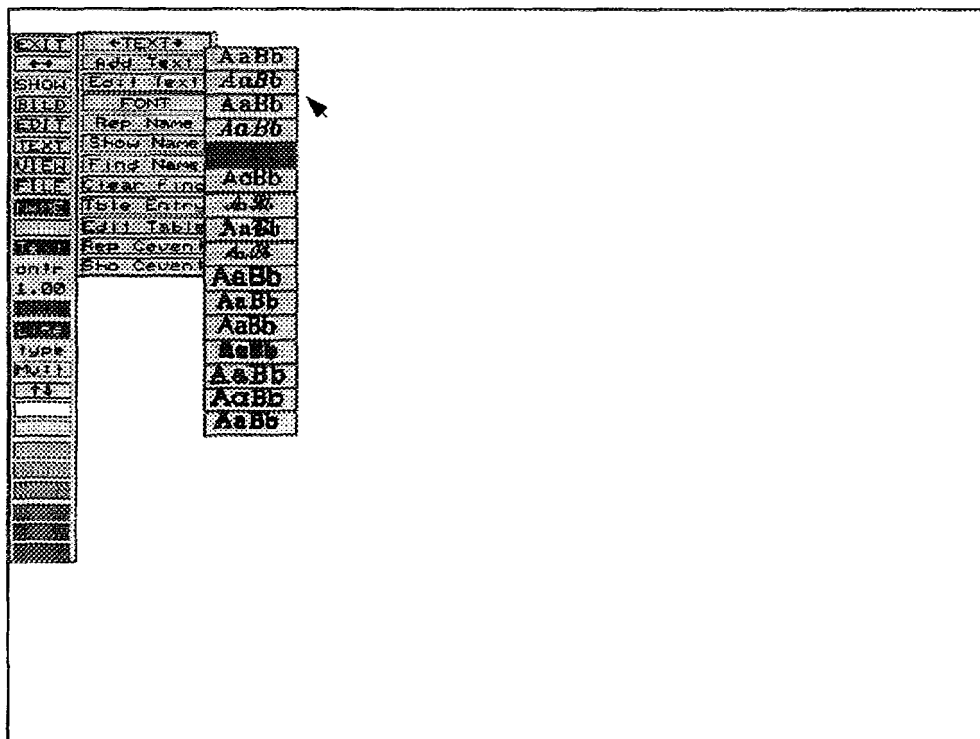

FIG. I.7. FONT selection menu.
I.6.3. FONT. This text suboption allows you to change the FONT type of the text. When you invoke this option, Fig. I.7 will be displayed. To select a font, position the cursor on the desired font and press the left mouse button. The font is now selected. New text will now appear in the new font style. This option updates the global font default. **NOTE:** The currently selected font is shown in a different color.